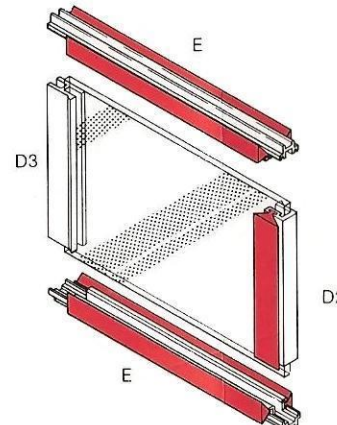

Figure 11
- c) The shorter seals in Section E will be on the same side as the flat face of Section D3 (Figure 11).